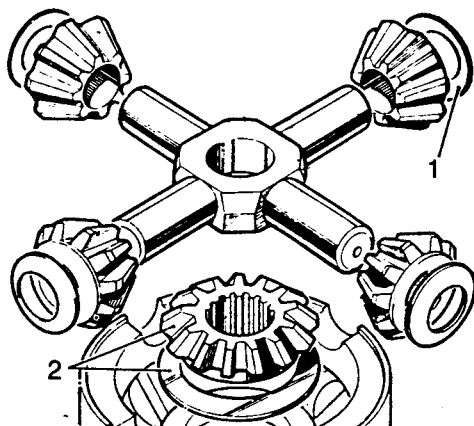

Fig J2.26
- (1) Refer to Fig J2.26. Replace the thrust washer and lower differential wheel (2).
- (2) Fit the new dished thrust washers (1).